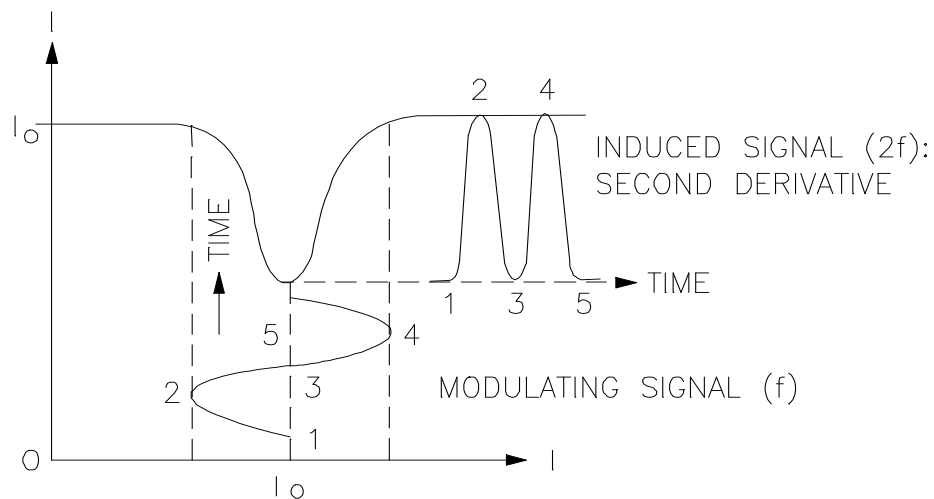

Figure 3. Absorption Curve Modulated with Curvature
hence, immune to interference. Figure 3 shows that Equation 20 is approximately correct, because the $(2F)$ amplitude nearly equals (S) .